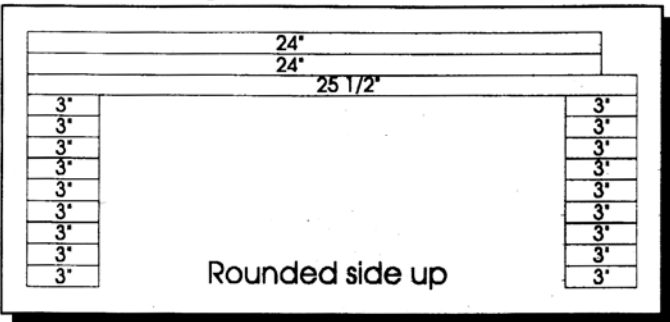

Figure 10- Back Roof
a. Glue one 25 1/2", two 24", eighteen 3" pieces together. See Figure 10.